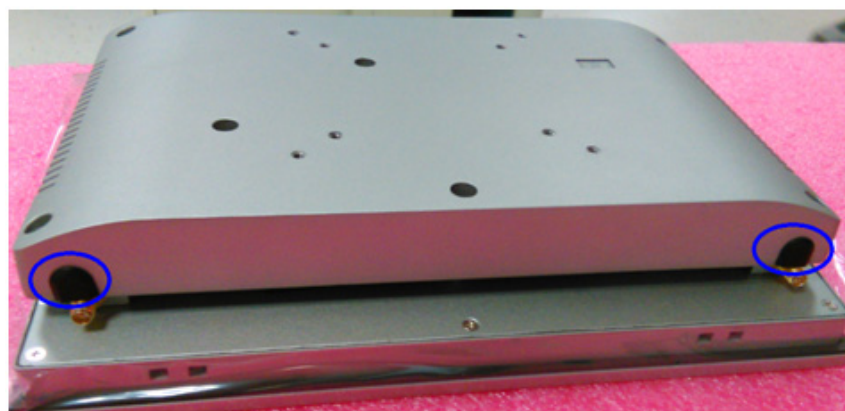

Figure 2.19 Removing plugs for the antennae
4. Remove the two plugs located at the top of the rear cover (Figure 2.19).